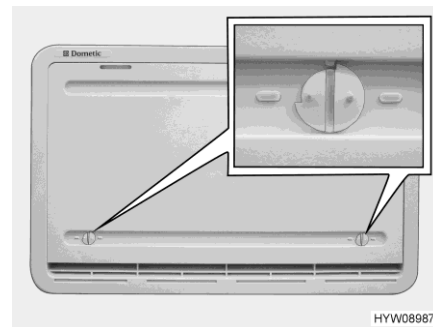

Fig. 148 Winter cover (refrigerator ventilation grill)
The winter covers (Fig. 148) protect the cooling unit against cold air. Place winter covers in front of both refrigerator ventilation grills when the external temperature falls below +10 °C (both for gas and electrical operation).
- Open both locks (Fig. 148) (groove in horizontal position).